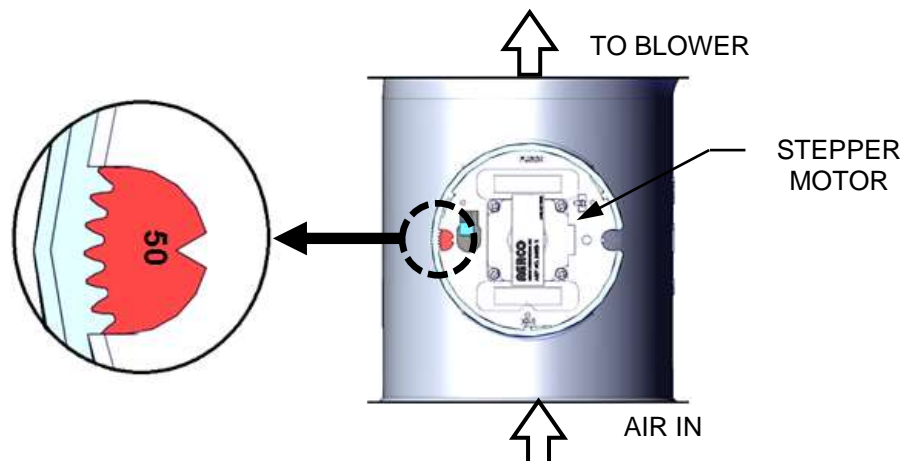

Figure 3-4: Air/Fuel Valve in Ignition Position
- a. The Air/Fuel Valve rotates to the low-fire (Ignition Position) position and closes the ignition switch. The dial on the Air/Fuel Valve will read between **45** and **50** (see Figure 3-4) to indicate that the valve is in the low-fire position.